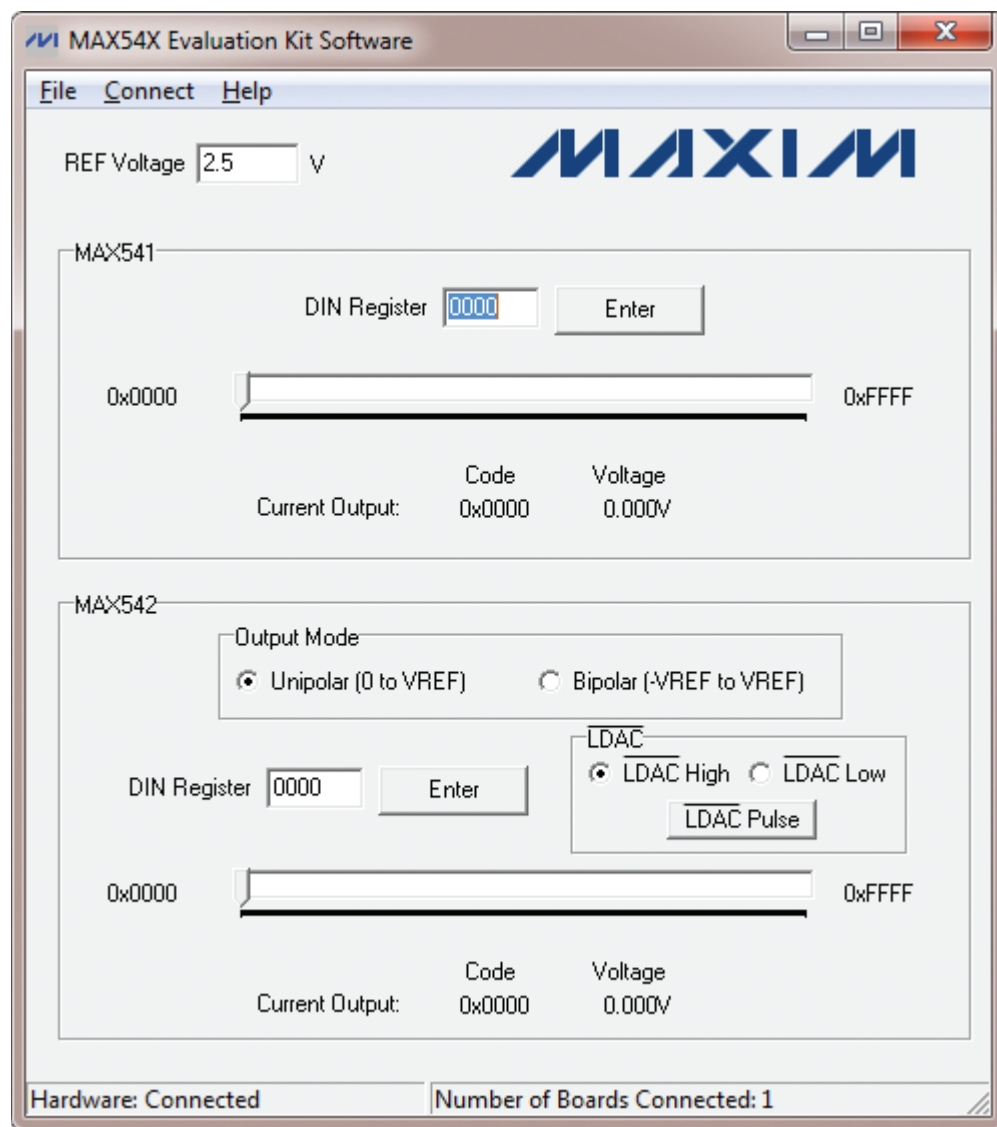

Figure 1. MAX54X Evaluation Kit Software (Main Window)
- 6) Start the EV kit software by opening its icon in the **Start | Programs** menu. The EV kit software main window appears, as shown in Figure 1.
In the main window of the evaluation software (Figure 1), the user can type in the reference voltage in the **REF Voltage** edit box. The software then calculates the DAC output voltages based on the reference voltage and the DAC input register value.